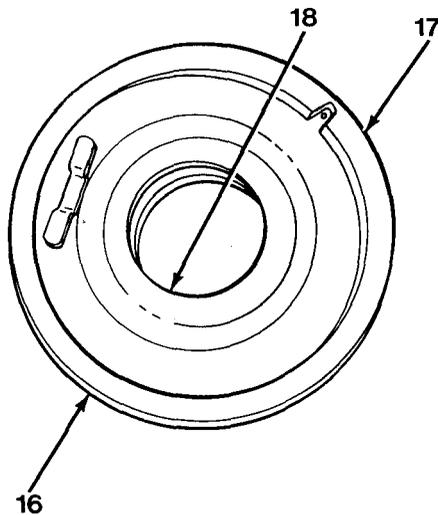

Figure 11-8
24. Remove snap ring retainer (14) four springs (12) and thrust washer (15).
25. Remove clutch piston (16) from clutch shaft assembly (2).
26. Remove outer piston seal (17) and inner O-ring (18) from clutch piston (16, Figure 11-8).